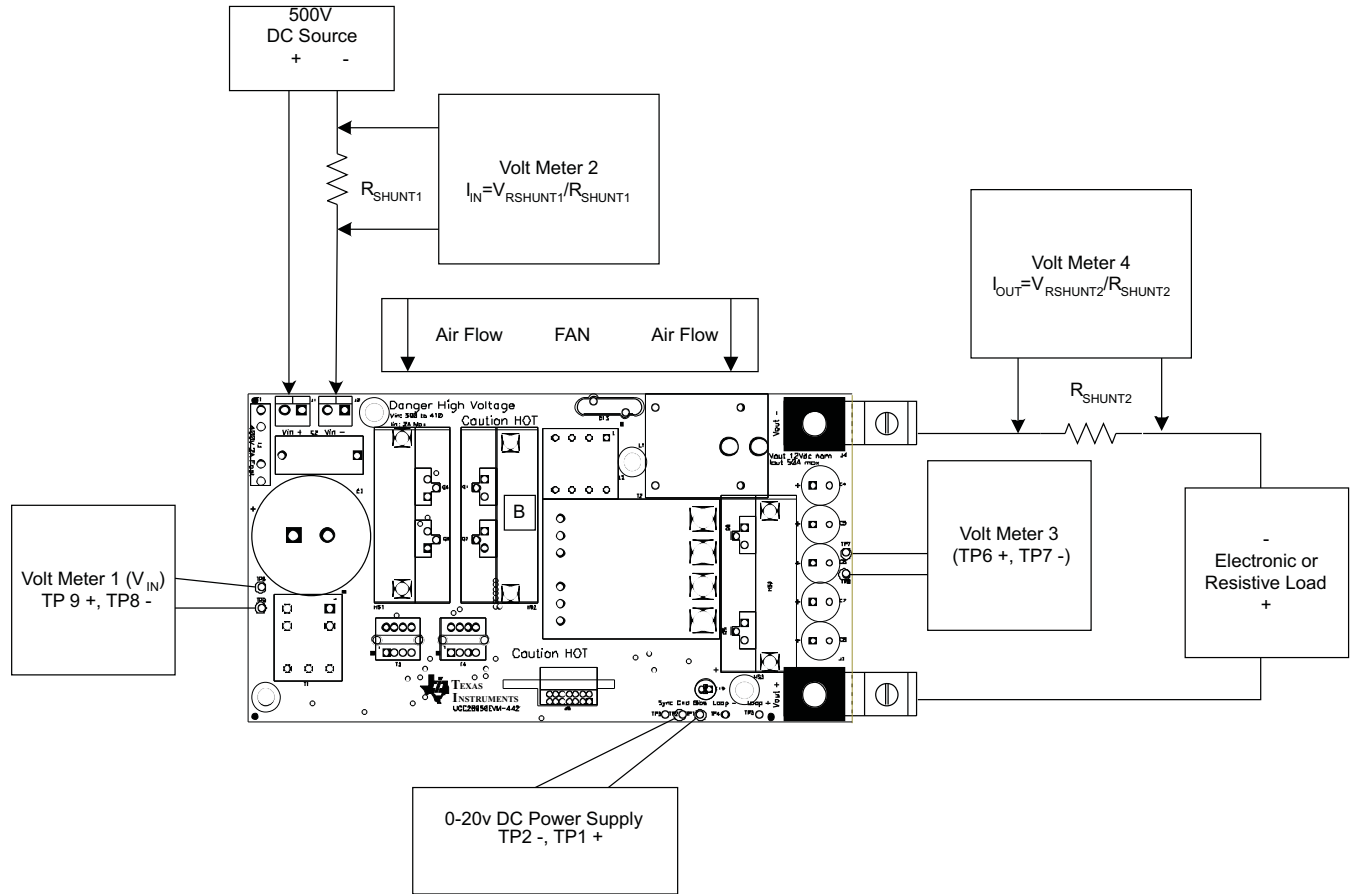

Figure 3. Test Setup to Measure Efficiency
4. Connect test setup similar to Figure 3 before applying power to the EVM.